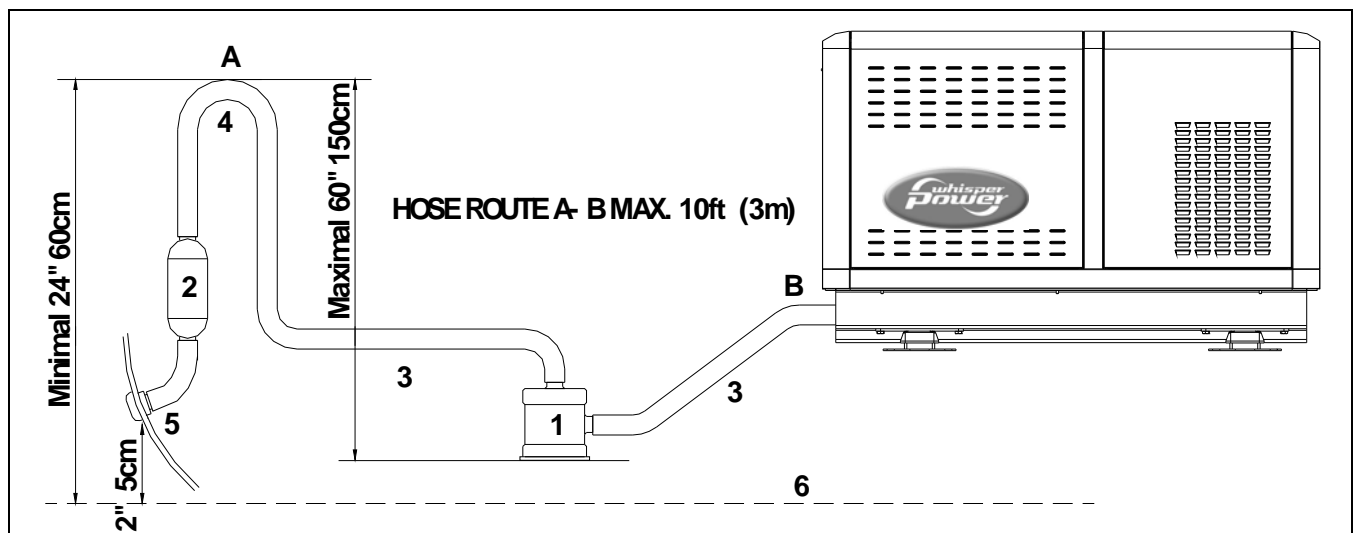
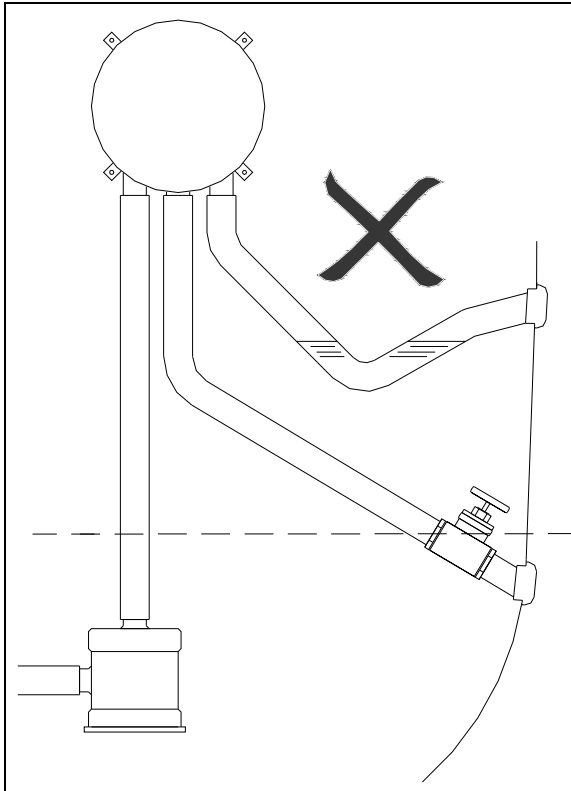

Fig. 10. Exhaust system
Fig. 13: Water trap in exhaust system
fig. 10, ref. 1). The exhaust hose must have an inner diameter of 63 mm (2½"). The exhaust system must be installed so that the back pressure inside the exhaust does not exceed 0.07 bar (1psi – 70 cm watercolumn) and total length from the generator to the top of the goose neck or or water/separator does not exceed 3m (10 ft.). (Refer to paragraph 5.4.3 of the users manual).
The exhaust hose descends from the capsule to the water lock. Then the hose rises via the "goose neck" to the through-hull exhaust outlet, situated minimum 50 mm above the water line (see fig. 10, ref 5.) The "goose neck" must be vertical and situated preferable along the ship's keel center line. If the generating set is mounted less than 600 mm (24") above the waterline, a "goose neck" must be installed to prevent the engine from overflowing. It is recommended to install an extra muffler close to the through-hull fitting.
However water traps should be avoided as the fumes still contains water and this should not accumulate in bents (see fig 13). An additional outlet exhaust muffler close to the hull outlet will help further to reduce noise emission (figure 10, ref. 2)